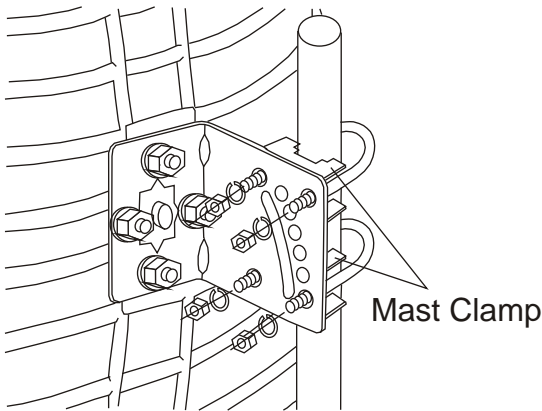
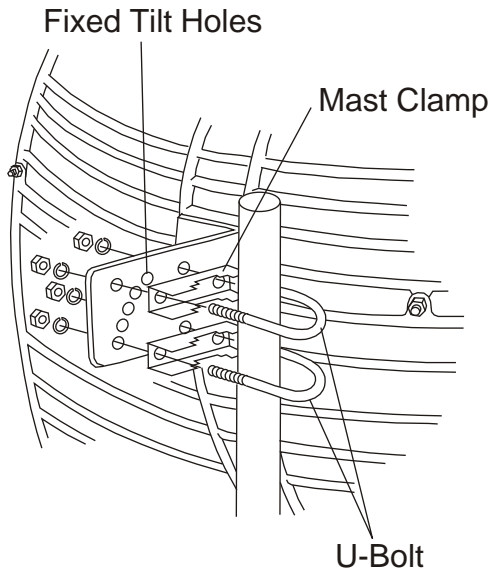
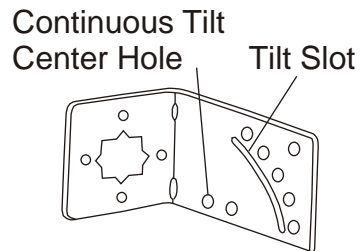

Figure 5
Figure 6
Figure 7
7. Place the 2 mast clamps on the 2 U-bolts. (Fig. 6) Fasten the U-bolts on the "L" bracket with the 4 lock washers and nuts. (Fig. 5)
Note: By eliminating 1 mast clamp and U-bolt, the optional fixed tilt holes provide elevation in 10° increments. (Not recommended under high wind conditions.) (Fig. 5) For continuous tilt adjustment use the flat plate washer on the adjustable slot to secure the antenna to the required elevation. (Fig. 7)